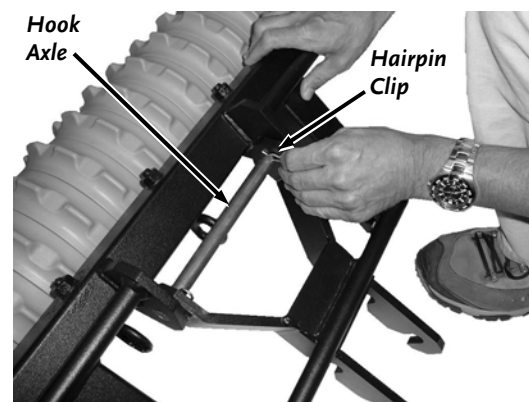

Figure 19
3. Insert two Hairpin Clips into the holes in the Hook Axle (**Figure 19**).